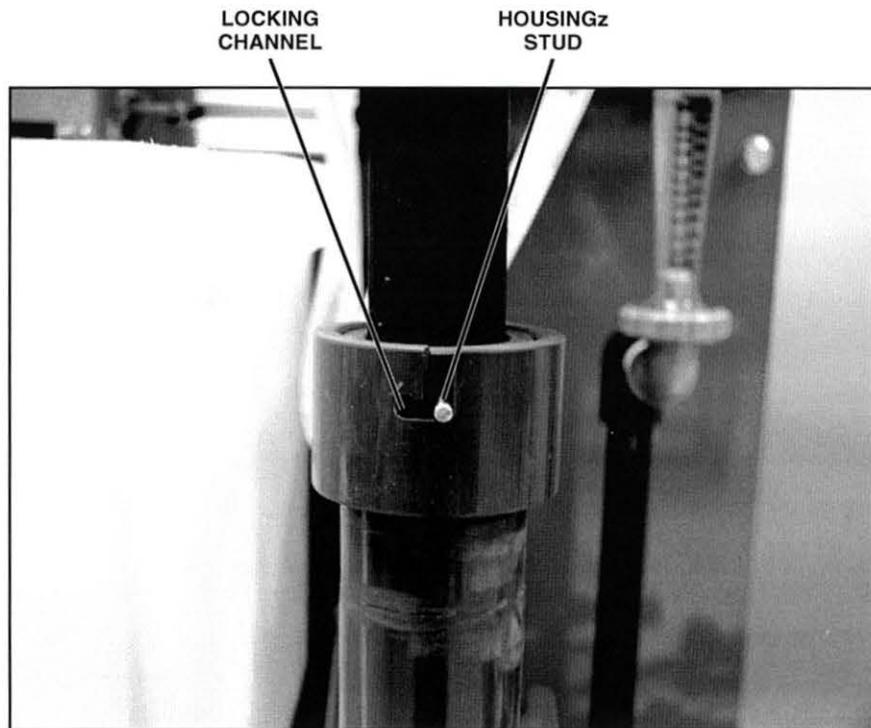

Figure 28. Electrode Housing Studs Released from Locking Channels
- C. Turn the electrode counterclockwise so that the studs on the electrode housing are released from the locking channels, as shown in figure 28. This allows the electrode housing to be lifted up and out of the fitting.